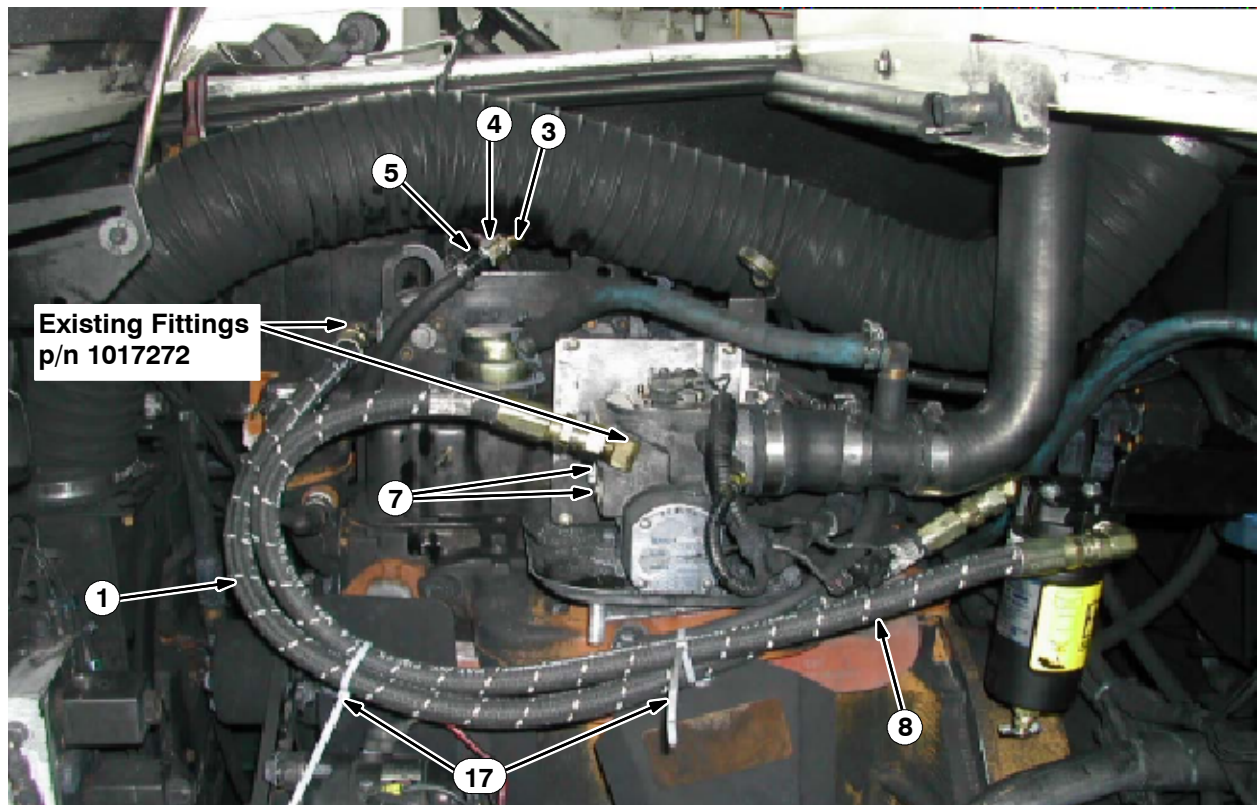
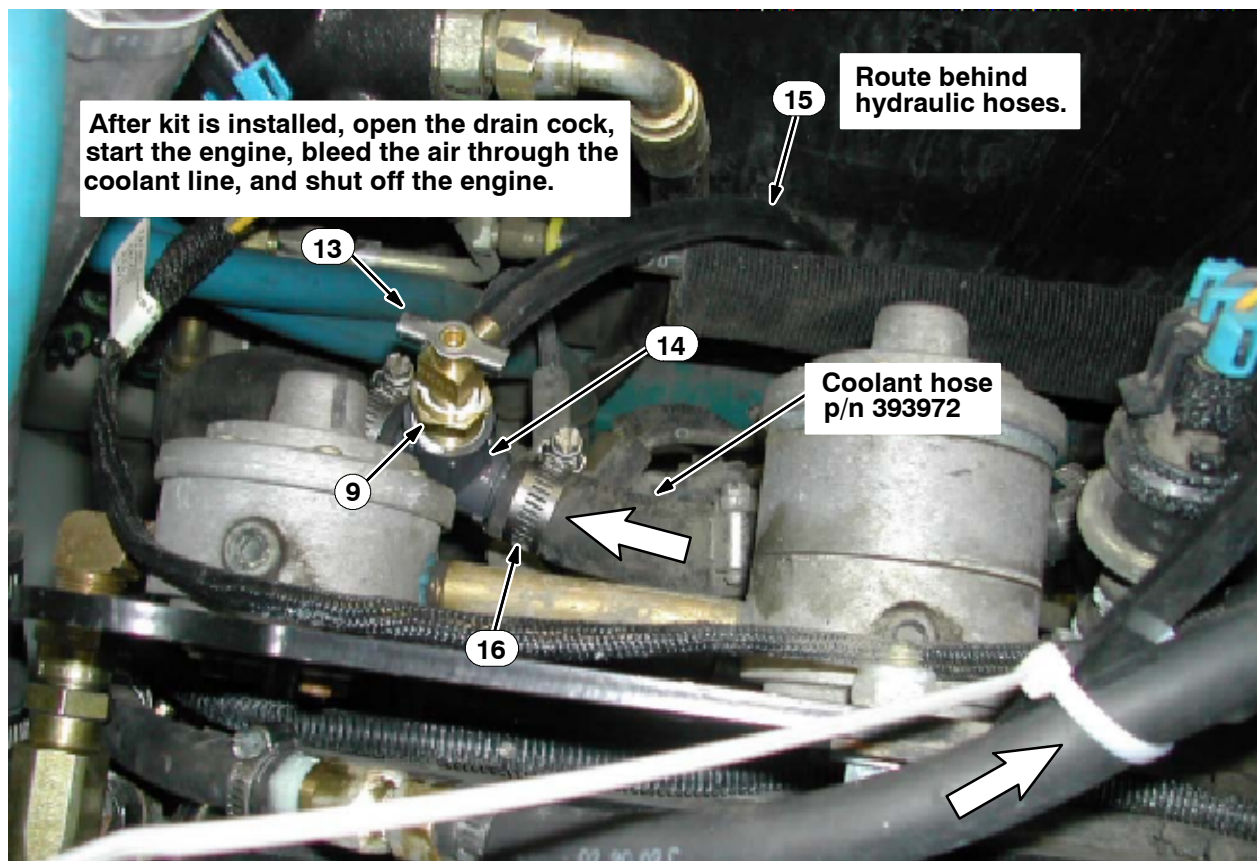

FIG. 6
FIG. 9
*NOTE: Assemble all parts as shown in Fig. 6 through Fig. 9. Refer to the parts list on the last page for descriptions of numbered parts.*
**Parts List-(9000889)-Refer to Fig. 6 through Fig. 9 to identify parts**